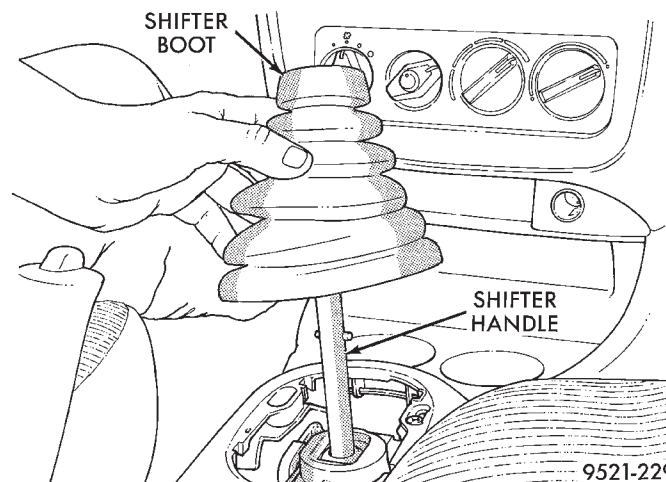

Fig. 187 Boot Removal
- Remove the shifter boot from the center console. Shifter boot is removed by squeezing the bezel together at the base of the shifter boot and pulling upward on the boot (Fig. 187).